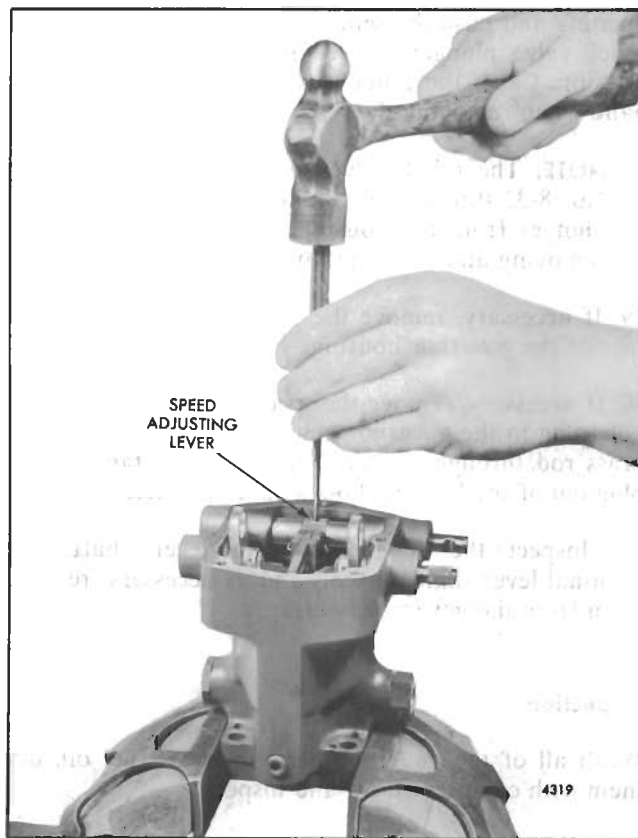

Fig. 9 - Removing Speed Adjusting Lever Roll Pin
1. **Clamp** the governor housing and base assembly in a bench vise equipped with soft jaws (Fig. 9).
10. Remove the speed adjusting lever roll (spring) pin from the speed adjusting lever and the lever shaft with a small punch and hammer as shown in Fig. 9.